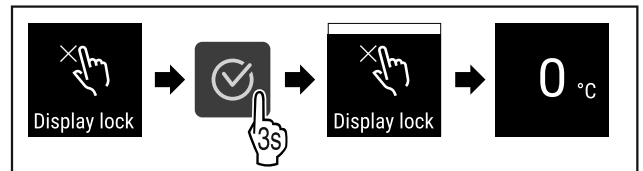

Fig. 77
- Complete steps (see Fig. 77).